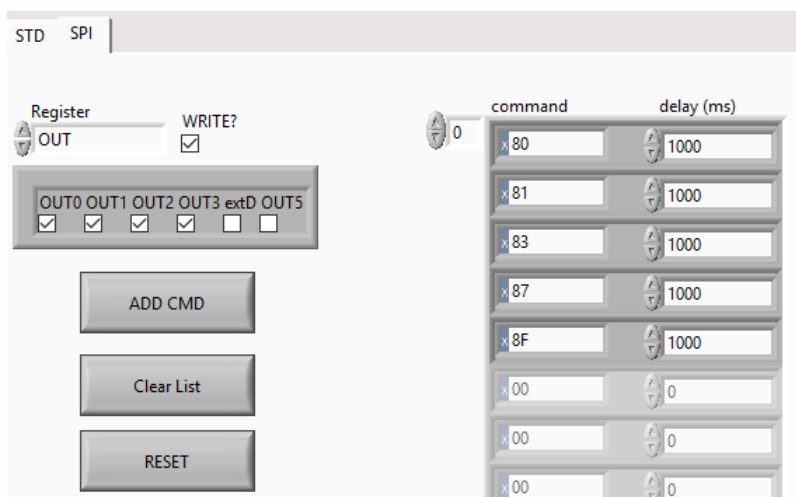

Figure 26 - repeat until all OUTs (OUT0-OUT3) are selected
- Repeat the last three steps until you reach OUT3 (See Figure 26)